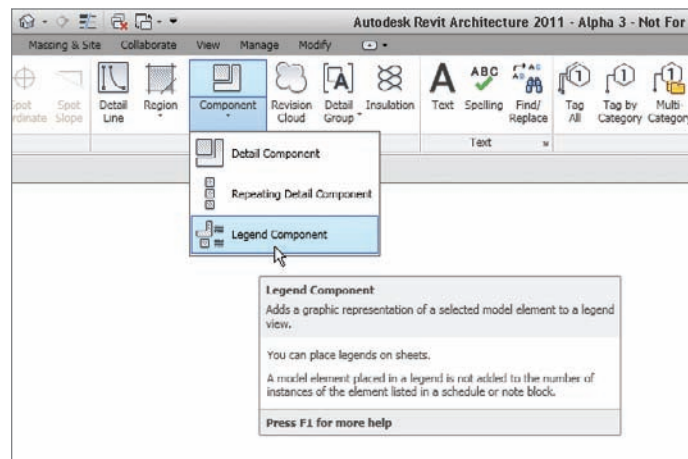

FIGURE 11.41 Clicking the Legend Component button
2. Click the Component > Legend Component button, as shown in Figure 11.41.